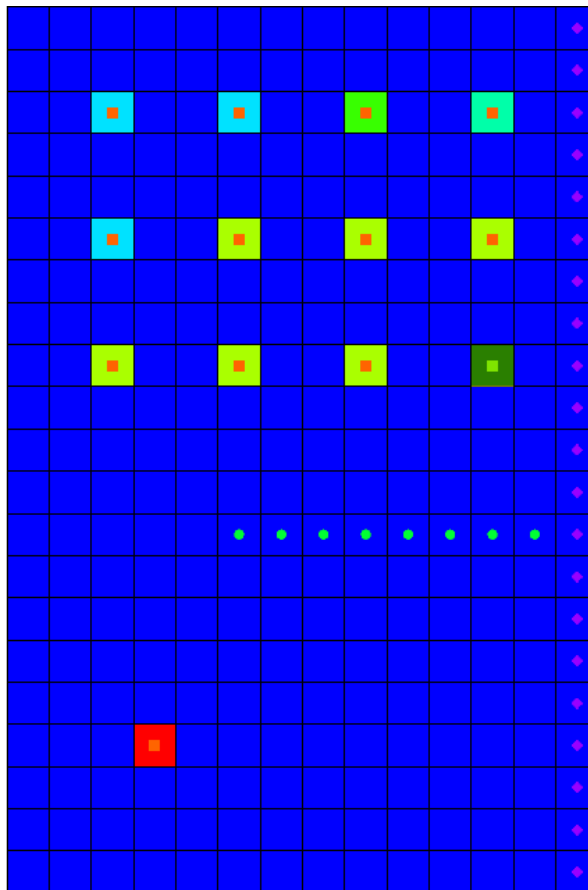

Figure 7 MNW boundary condition cell
5. Select the cell highlighted in Figure 7 (bottom right cell of the group of wells, Cell ID 124), then right-click and select **Sources/Sinks** to bring up the *MODFLOW Sources/Sinks* dialog.